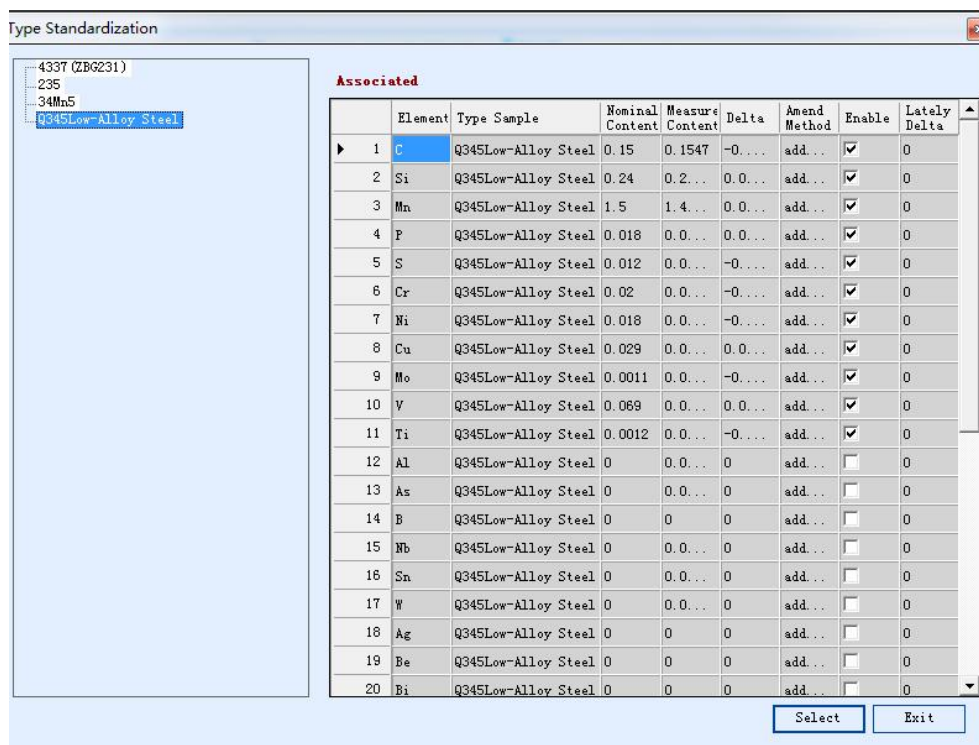

Figure 4-33 Select the required control sample
Step 6 Click required control sample and click “Select”, as shown in Figure 4-33.